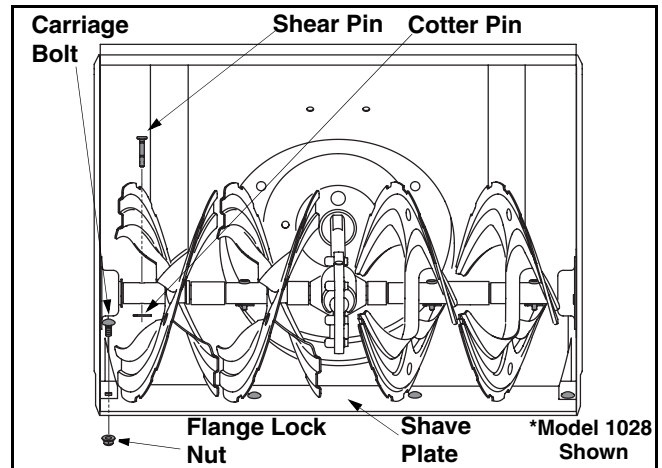

Figure 15
- The augers are secured to the spiral shaft with four (Model 1028) or six (Model 1130) shear pins and cotter pins. If you hit a hard foreign object or ice jam, the snow thrower is designed so that the bolts may shear. Refer to Figure 15.
- To remove the shave plate, remove the carriage bolts and flange lock nuts which attach the shave plate to the snow thrower housing. See Figure 15.